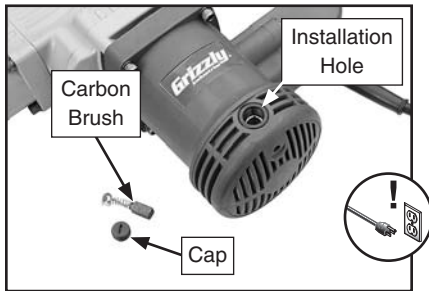

Figure 10. Carbon brush components.
2. Clean away any dust and debris from the motor housing. This will prevent material falling into the carbon brush installation holes (see **Figure 10**), which could result in motor damage.